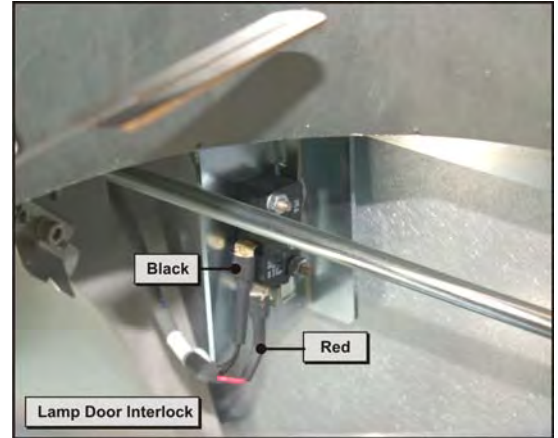

Figure 5-70 Lamp Door Interlock
3. Disconnect the red and black leads from the lamp door interlock. **NOTE:** Red lead to “No” label on interlock and black lead to “COM” label. (Figure 5-70)